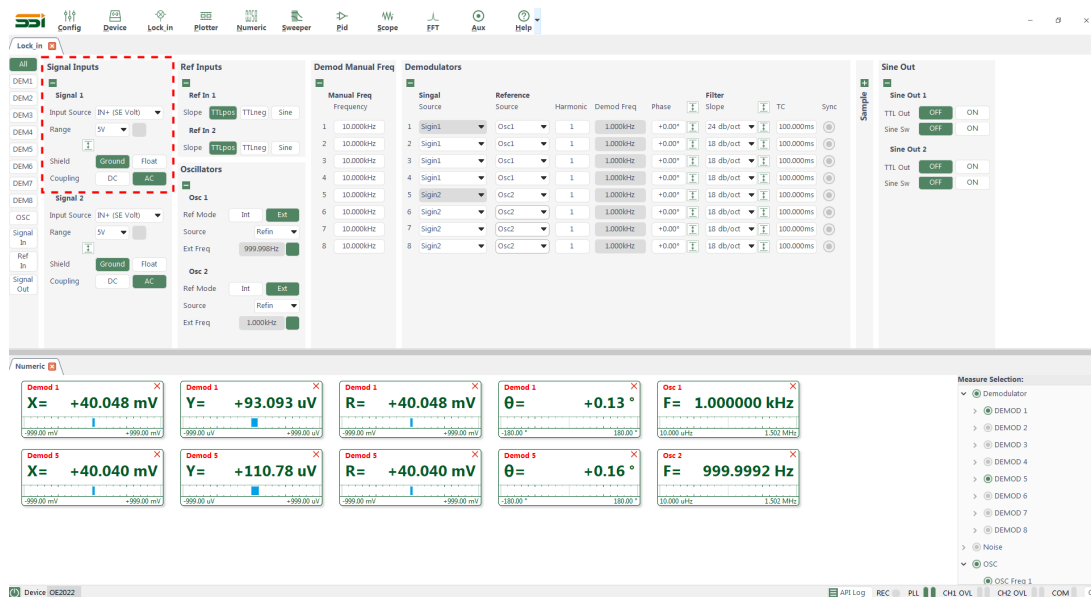
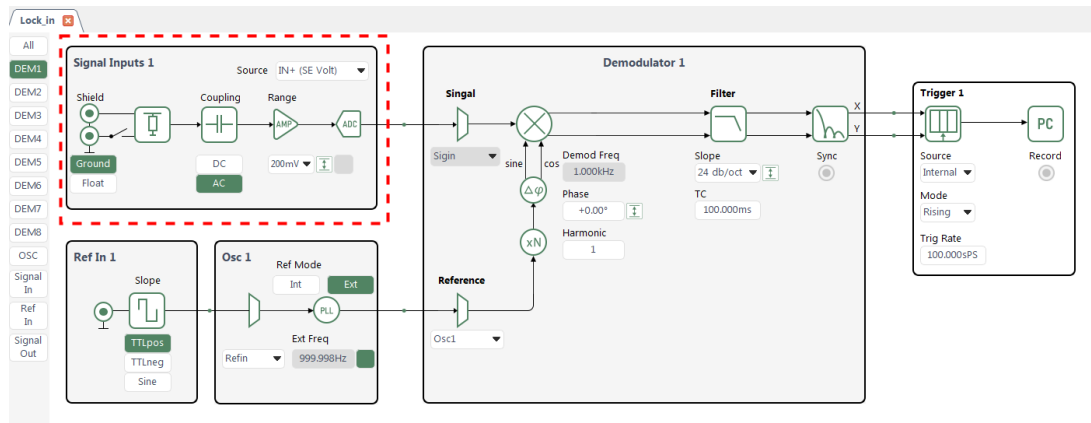

Figure 31. Input Signal Configuration Area
Figure 32. Input Signal Configuration Area in the Flow Diagram
1. According to the configuration in Table 4, modify the input signal type, input coupling, and input range in the input signal configuration area. Keep the other options at their default values. As shown in Figure 31 and Figure 32, select either method to make the changes.